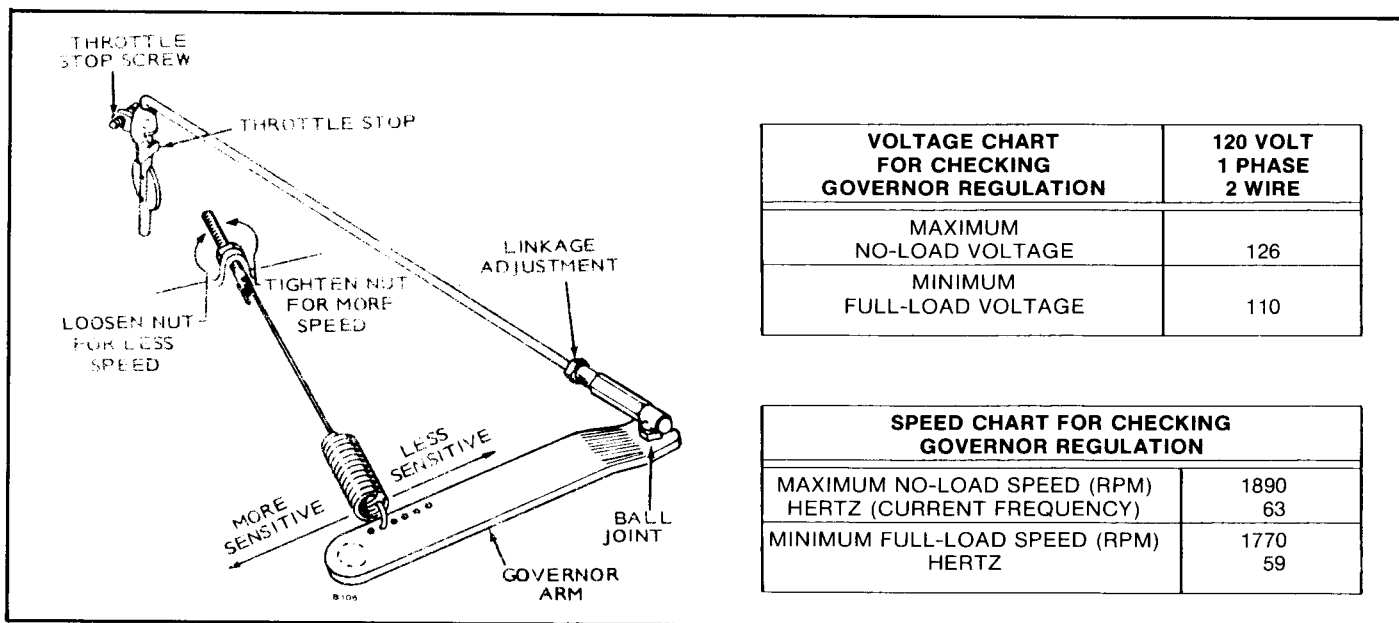

FIGURE 34. GOVERNOR ADJUSTMENTS
**Speed Adjustment:** With the warmed-up unit operating at no load, adjust the tension of the governor spring. Refer to *VOLTAGE CHART* and *SPEED CHART* (Figure 34). Turn the speed adjusting nut to obtain a voltage and speed reading within the limits shown.
**Sensitivity Adjustment:** Refer to Figure 34. Check the voltage and speed, first with no load connected and again with a full load. Adjust the sensitivity to give the closest regulation (least speed and voltage difference between no load and full load) without causing a hunting condition.